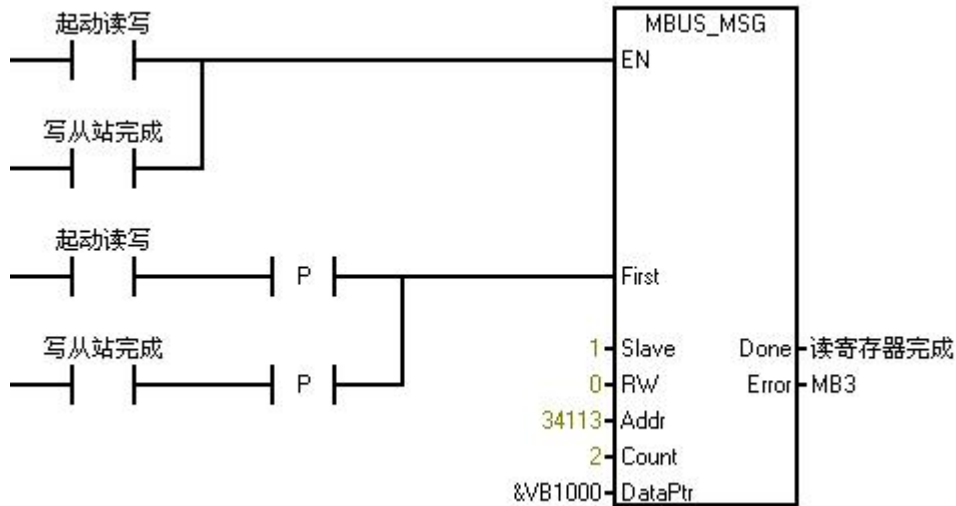

Figure F3-3 Reading Instantaneous Flow
Step 3: Use MBUS_ MSG reads data from the flow meter. As shown in Figure F3-3:
VD1000 corresponds to VB1000 in Figure F3-3, representing the internal address space of the PLC to which the instantaneous flow is transmitted.